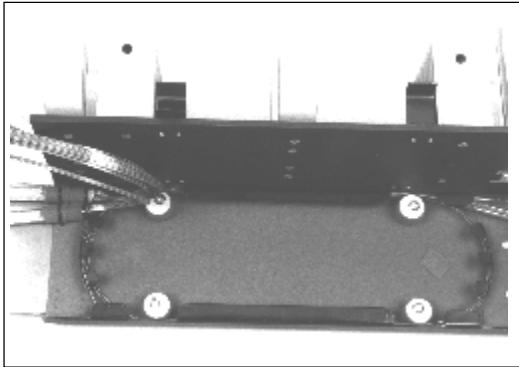

FIGURE 27 - ROUTE FIBERS AROUND COMPARTMENT
14.08 Route transport tubes under hinge locking arm and secure with tie wraps. (Figure 27)